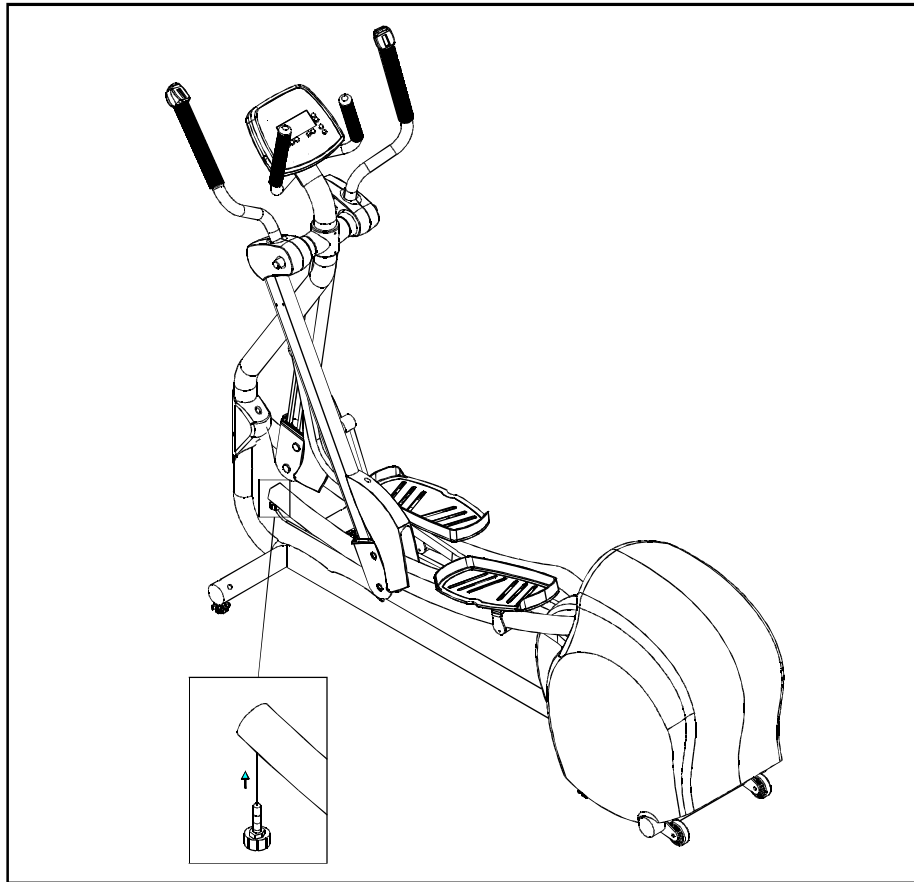

Fig.7
8. Fasten the screws to the glide rail as shown in diagram in Fig.7.